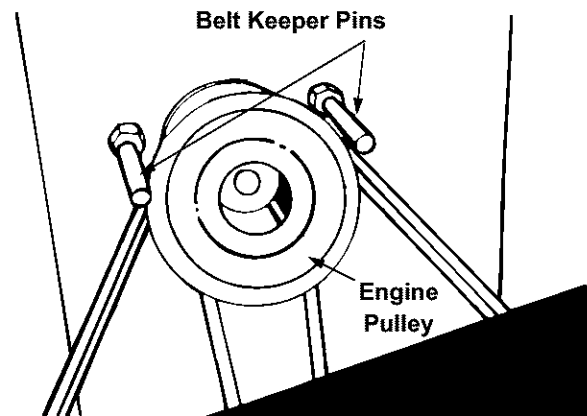

Figure 22
NOTE: When reassembling, make certain belt keeper pins are assembled in the same locations from which they were removed. See Figure 22.
- Remove the belt keeper pins from the lower frame. See Figure 22.
- Remove the belt keeper pins from the engine pulley belt guard. Refer to Figure 22.
NOTE: Make certain belt keeper pins are reassembled as shown in Figure 22.
NOTE: When reassembling, make certain belt is inside the belt keeper pins. See Figure 22.